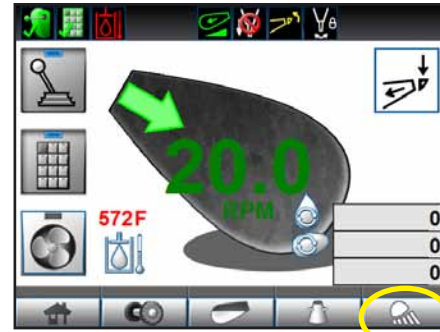

Figure 59
1. Touch the LIGHT function button on the bottom row of the touch screen home screen (Figure 59, Item 1).